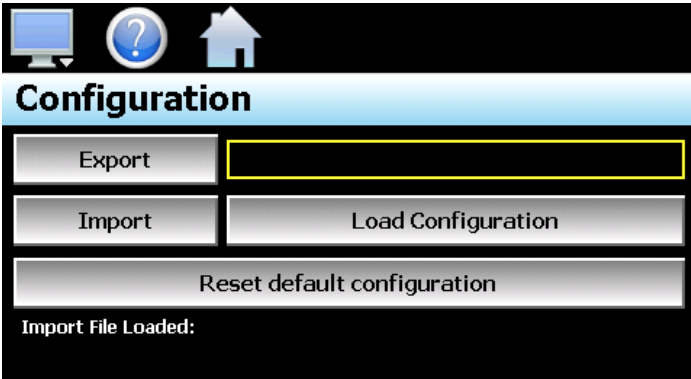

Fig. 117: Configuration Screen
- The CONFIGURATION screen appears (Fig. 117). The table on page 44 explains the button options and their functions.